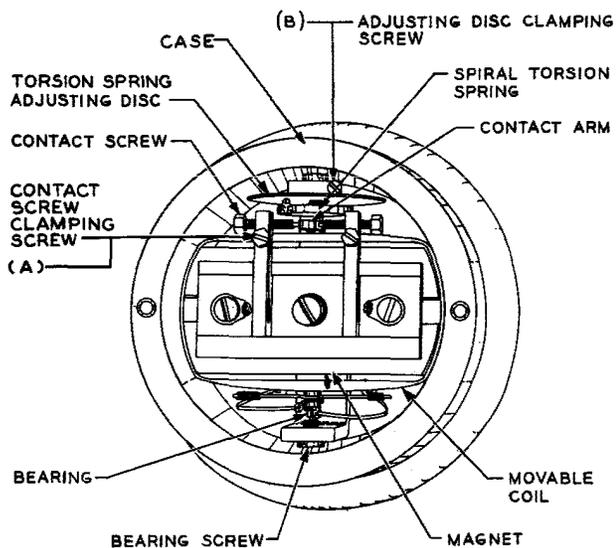
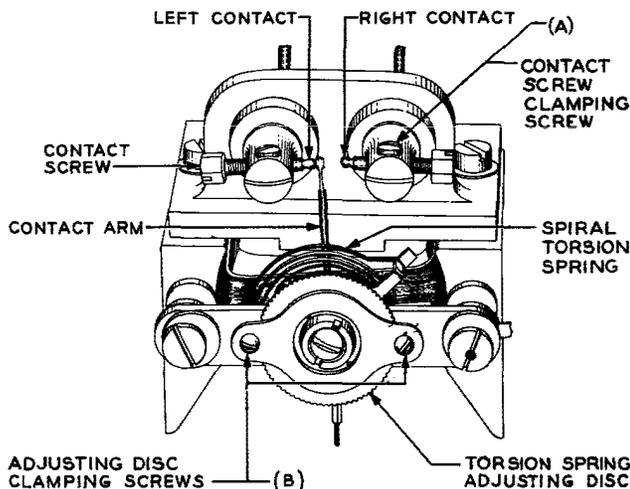

Fig. 3 - Western Electric 260 Type — Cover Removed (earlier relays having contact screw clamping screws)
Fig. 4 - Contact Assembly — Weston Models (earlier relays having contact screw clamping screws)
2.02 *Tightness of Contact Screw Clamping Screws* (Western Electric 260 type and Weston models): Fig. 3(A), Fig. 4(A), Fig. 9(A), and 10(A) — The contact screw clamping screws shall be sufficiently tight to hold the contact screws in their adjusted position.